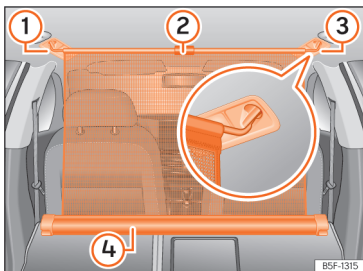

Fig. 187 In the boot: net partition hooked into the rear seat backrests.
- Pull up handle >>> Fig. 187 ② to remove the net from the casing ④.
- Hook in the net partition on the right or left side >>> Fig. 187 ③ (magnified image).
- Hook in the net partition into the housing on the other side >>> Fig. 187 ① by pulling the rod.
The net partition is properly assembled when the T-shaped ends are firmly secured in the corresponding housings >>> Fig. 187 ③ and ①.
- Roll up the net into the casing >>> Fig. 187 ④ lowering it with your hand.